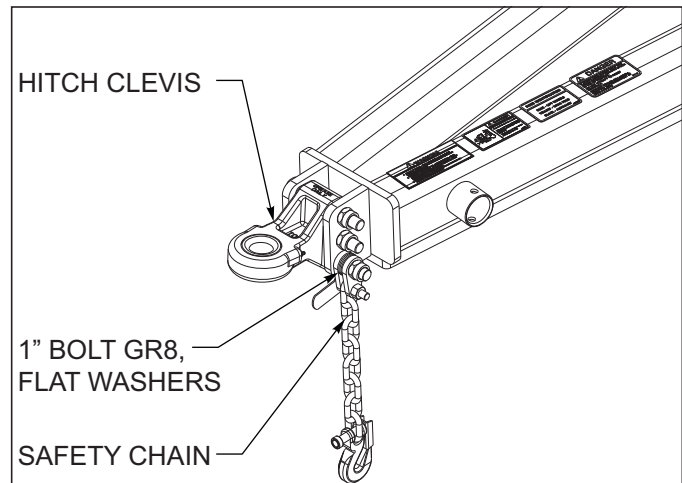

Figure 4-8: Hitch and Safety Chain
- b. Attach the safety chain to the tractor drawbar *See Figure 4-8*. Provide only enough slack in the chain for turning. Do not use an intermediate chain support as the attaching point for the chain on the tractor. Do not pull the implement by the safety chain.